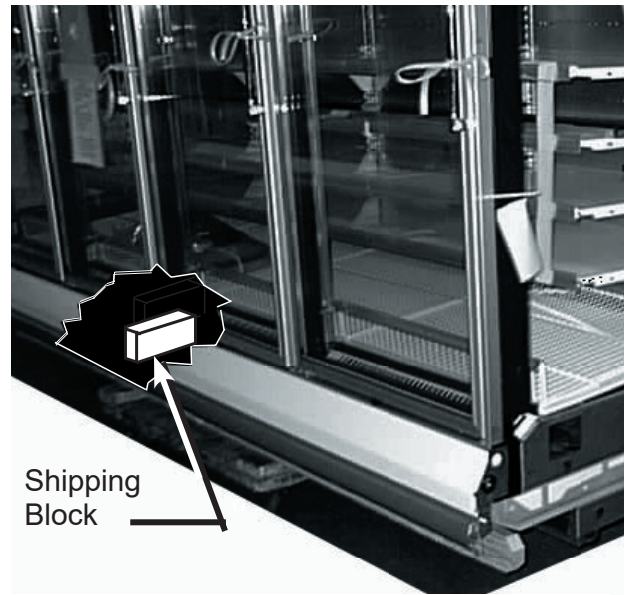

Figure 2. remove shipping block
2. Locate and remove the shipping block in the center of the heat exchanger in the interior bottom of each case, see Figure 2. Snap a chalk line on the floor to use as a guide for positioning the front of the cases in the line-up. The front base frame should be on the chalk line.